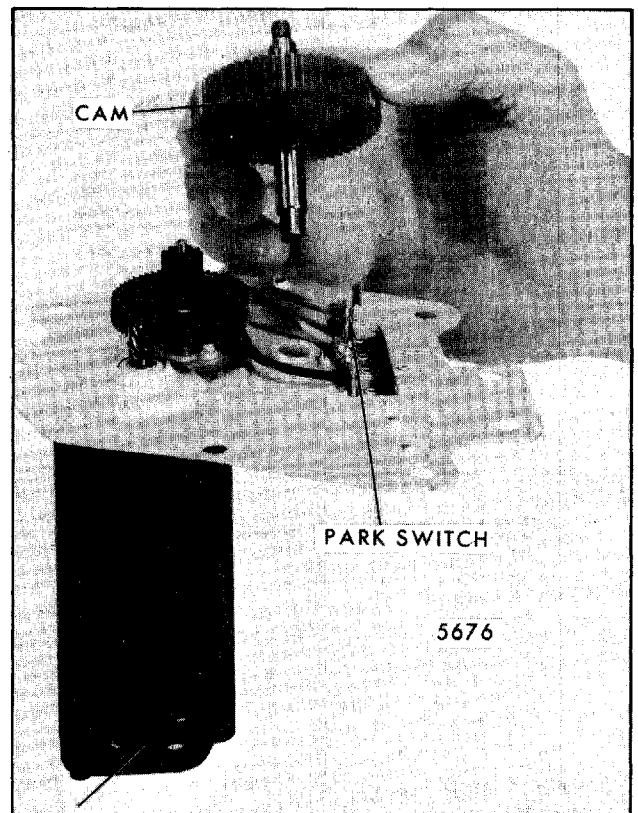

Fig. 2-38-Gear Installation
3. Install output gear and shaft assembly with cam at least 90° away from park switch (Fig. 2-38).